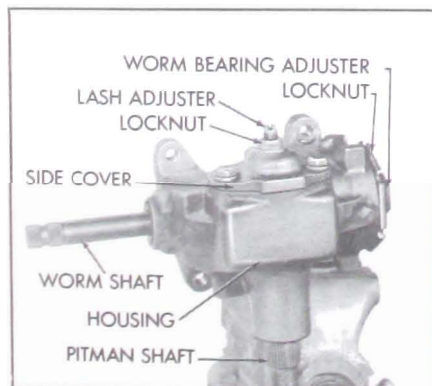

Figure 8-3—Manual Steering Gear Adjusters
There are two adjustments on the steering gear: worm bearing preload, and pitman shaft overcenter preload. See Figure 8-3.
7. **Adjust Worm Bearing Preload.** Loosen worm bearing adjuster lock nut using a drift. See Figure 8-3. Turn bearing adjuster as required to bring pull between 2 and 7 inch pounds. Tighten lock nut, then recheck preload.
2. Place steering gear in a soft jaw vise. See Figure 8-3. Do not